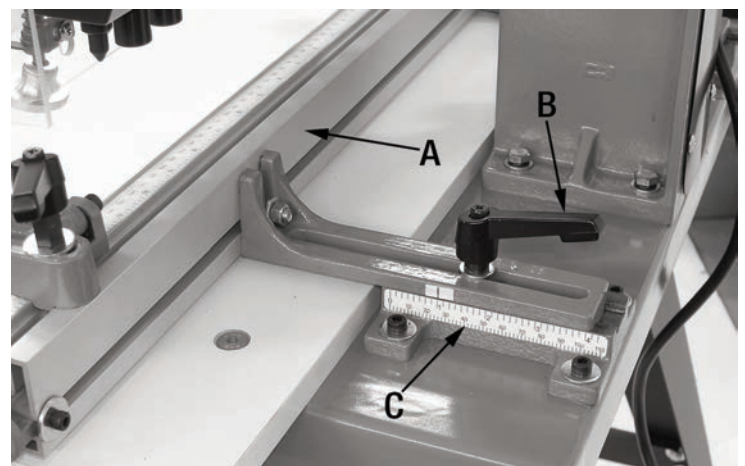

FIGURE 11
1. The fence (A) Fig.11 can be moved back and forth by loosening the two lock handles (B) on both sides of the fence and manually moving the fence to the desired position. Make sure to align the scales (C) on both sides of the fence to the identical measurement, and retighten lock handles (B).